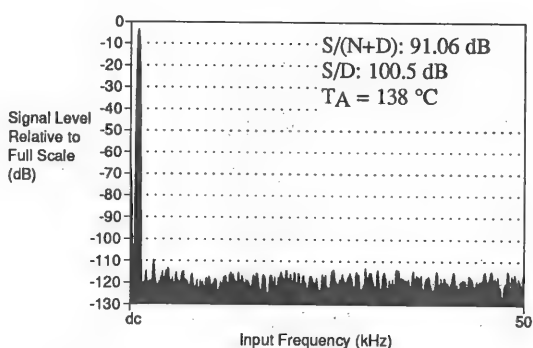
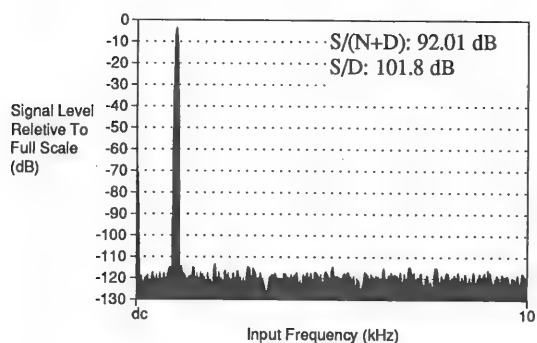

Figure 18. CS5101A FFT (SSC Mode, 1-Channel)
Figure 19. CS5102A FFT (SSC Mode, 1-Channel)
0.001% THD at 25°C. Figure 18 illustrates only minor degradation in performance when the ambient temperature is raised to 138°C. Figure 19 and 20 illustrate that the CS5102A typically yields >92 dB S/(N+D) and 0.001% THD even with a large change in ambient temperature. Unlike conventional successive-approximation ADC's, the signal-to-noise and dynamic range of the CS5101A and CS5102A are not limited by differential nonlinearities (DNL) caused by calibration errors. Rather, the dominant noise source is broadband thermal noise which aliases into the baseband. This *white* broadband noise also appears as an idle channel noise of 1/2 LSB (rms).